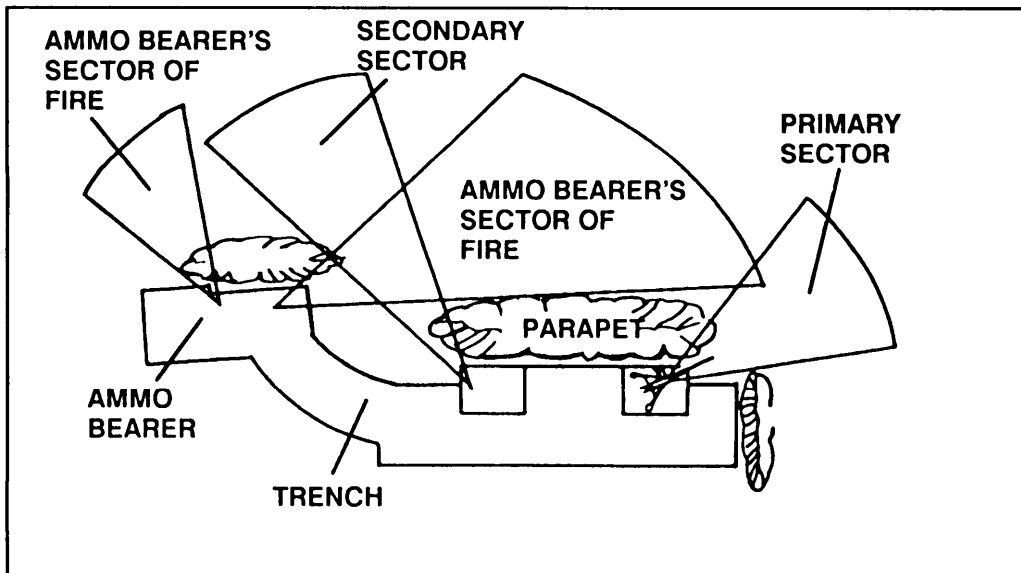

Figure D-1. Three-man fighting position.
a. The cover in a machine gun fighting position protects the gun crew from frontal small-arms fire and from fragments of high explosive shells impacting within 3 to 5 meters of the position. The frontal parapet must be at least one M16 rifle length thick and high enough to hide the helmets of the soldiers in the position. Overhead cover built out of sandbags stacked on logs will protect from shell fragments. The logs should be at least 6 inches thick, with at least two layers of sandbags over them (Figure D-1).